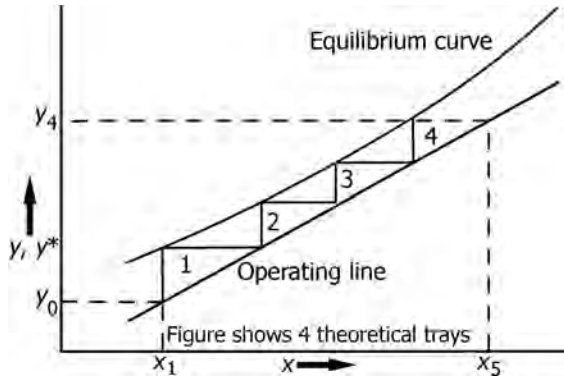

FIGURE 17.6 Tray column design for strippers.
- For strippers, equilibrium curve will be above the operating line as shown in Figure 17.6.